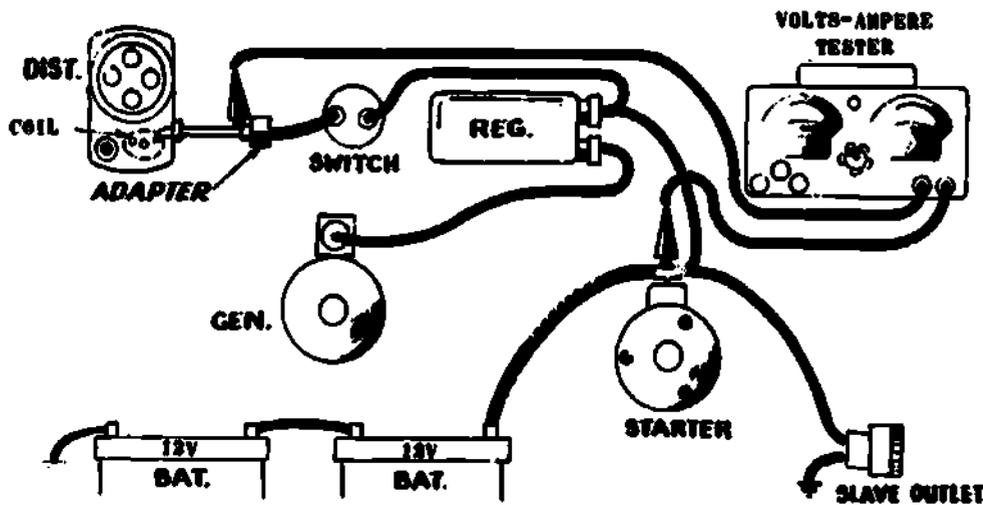

Fig 1-23. Primary circuit resistance test connections.
9. **Ignition primary circuit resistance test (fig 1-23).** Hard starting and misfiring can be caused by excessive resistance in the ignition primary circuit. Remember that resistance is affected by the type of material used, the size of the conductors, corrosion, and dirty or loose connections. Although there can be other causes of hard starting and misfiring, testing the resistance of the circuit during scheduled maintenance is a worthwhile time investment.